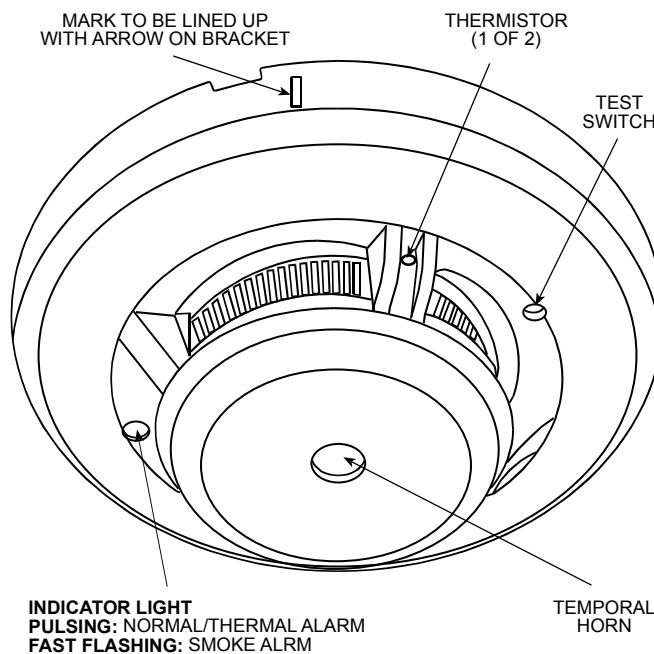

Figure 1. General View
- B. When required to initiate a transmission for enrollment of the first ID, activate the **test switch** (see fig. 1) until the built-in horn sounds (see Para. 4.1.B).